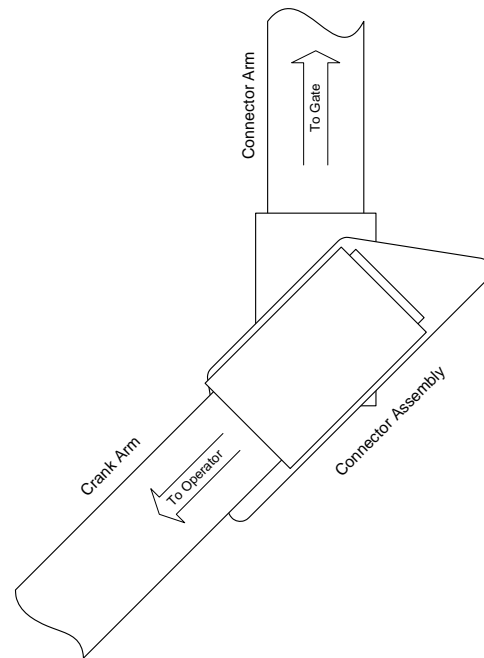

**Figure 25**
1. Pull the gate arm (figure 25) that is attached to the operator shaft away from the gate so that the knuckle joint is slightly "broken" (figure 26).
- Be sure that primary (AC) and backup (DC) power is removed or shut-off prior to placing the gate operator in manual operation.
- Unlock and remove the padlock on the operator crank arm (figure 25) and then pull the release pin.